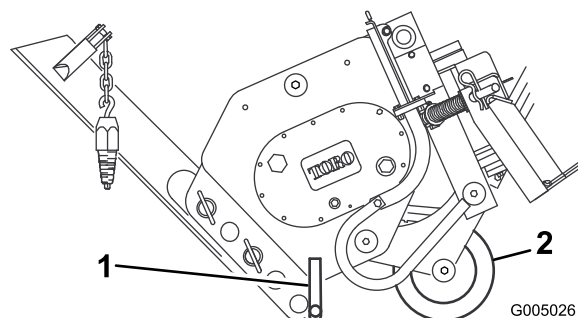

Figure 8
3. Swing the blade up and secure it as illustrated in Figure 8.
4. Tilt the plow forward and lower it to the ground or trailer, with the stand and coulter supporting the weight of the plow (Figure 8).